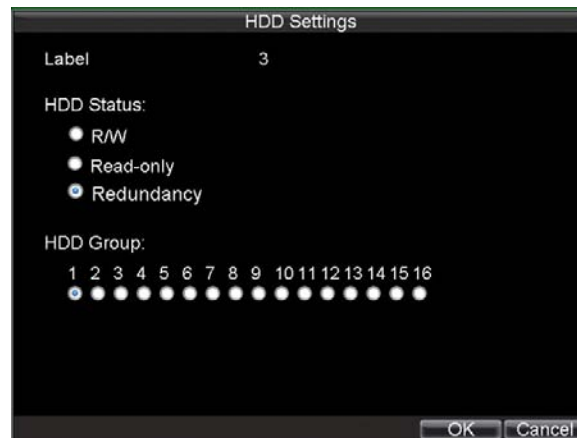

Figure 11. HDD Settings
5. Set **HDD Status** to Redundancy, shown in Figure 11. Verify at least one other HDD is set to R/W (read/write).